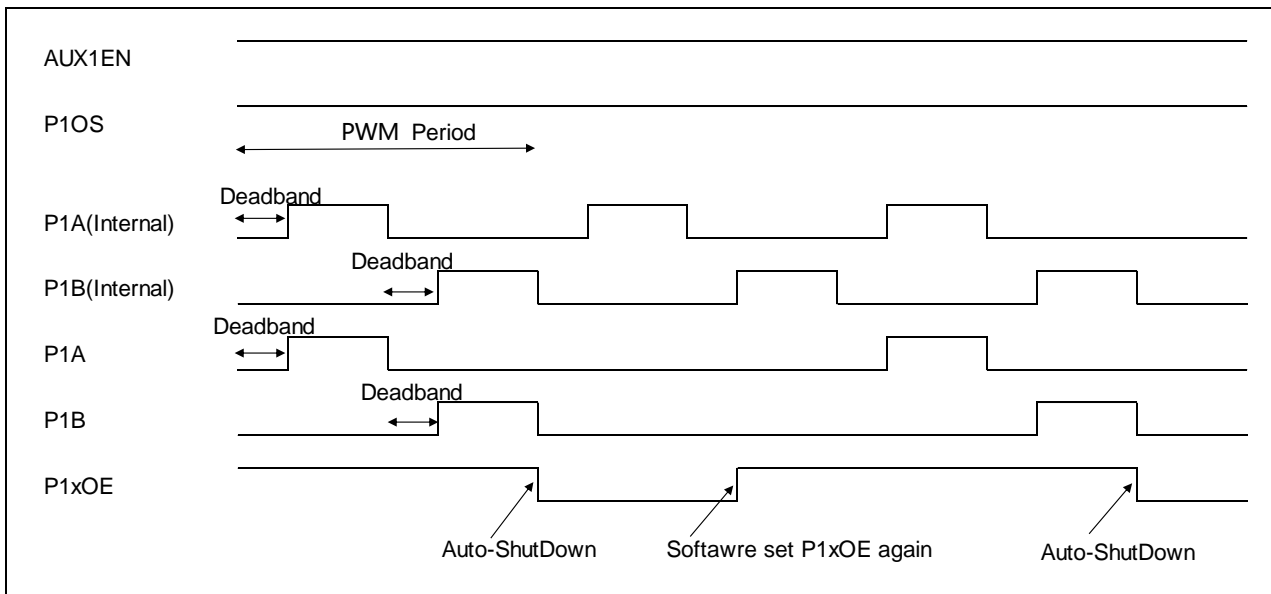

Figure 10-17 PWM one-pulse output (Auxiliary Function)
2. It should be noted that that in this mode, P1xOE will be cleared when PWM output one pluse, PWM counter will keep counting, if software set P1xOE (x can be A~F) again, then pin P1x(x can be A~F) will output a PWM waveform in the next PWM cycle, see Figure 10-17.